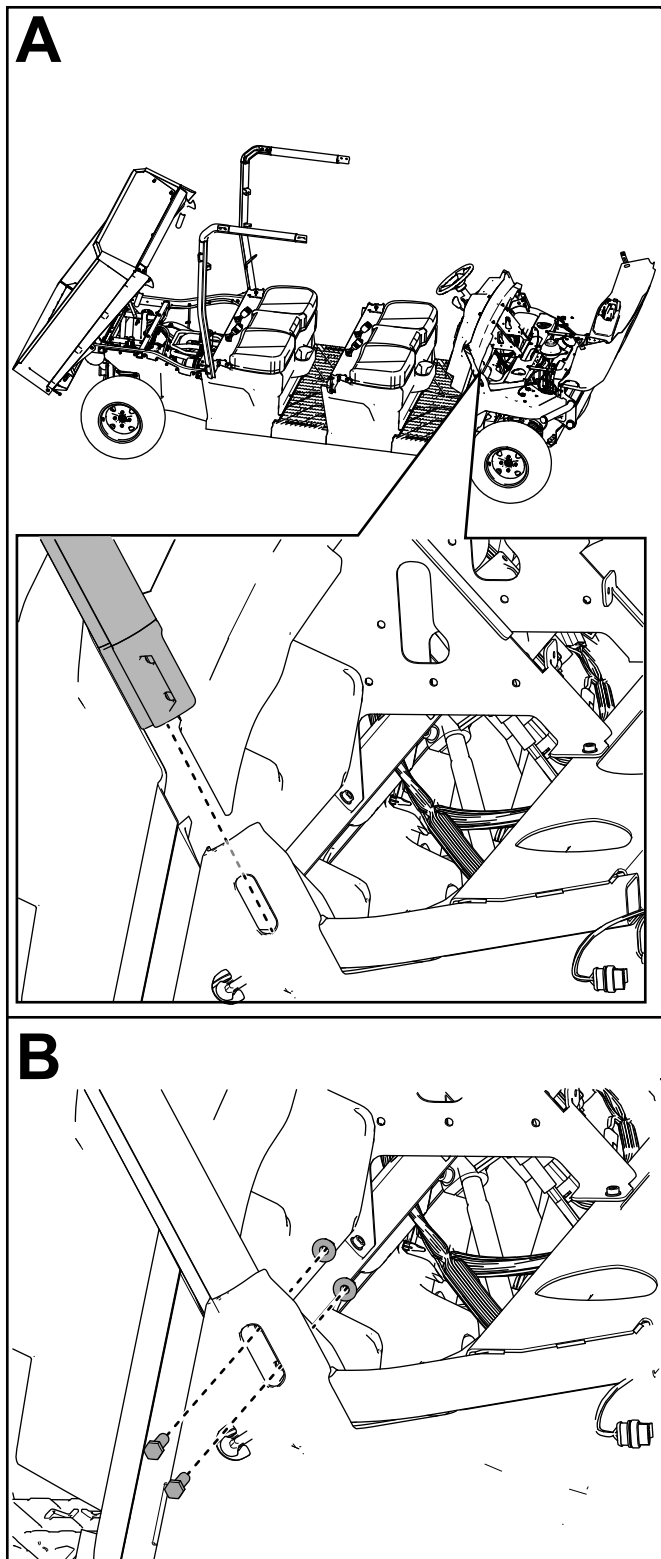

Figure 44
10. Loosely secure the right, front roll bar assembly to the right roll bar mount bracket using 2 hex-head bolts (3/8 x 1-1/4 inches) and 2 locknuts (3/8 inch) as shown in Figure 44.